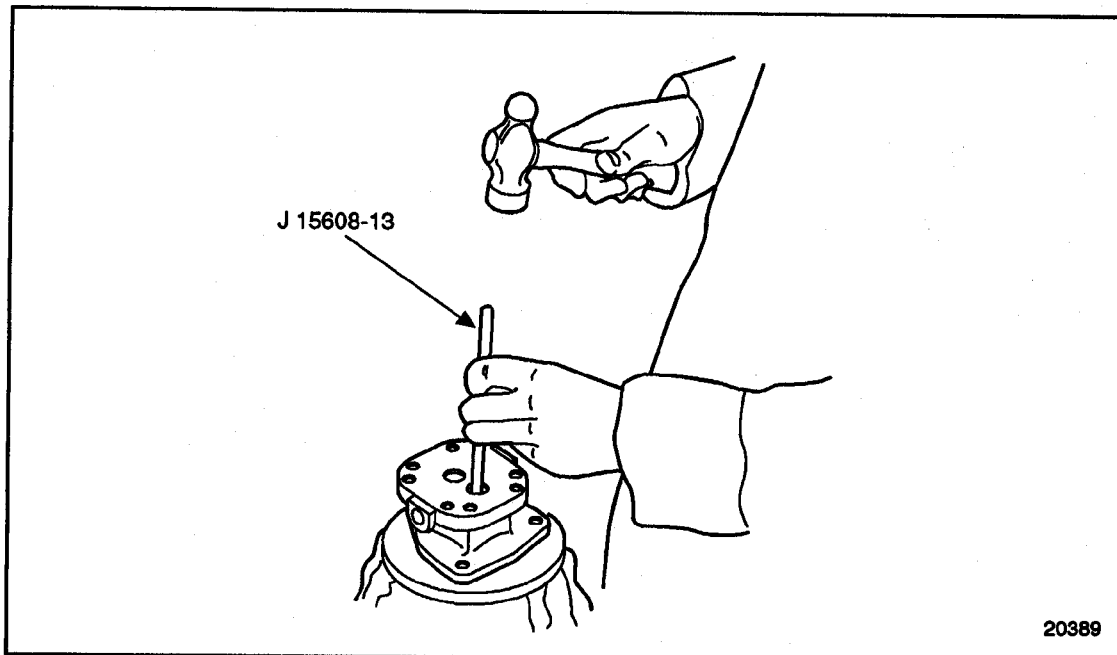

Figure 2-34 Oil Seal Removal
15. Position pump on fixture, J 38767-1, and insert lip of seal remover, J 1508-13, between the inner and outer oil seals. Tap the tool with a light hammer to drive the outer seal out of the pump body. See Figure 2-34. Discard the seal.